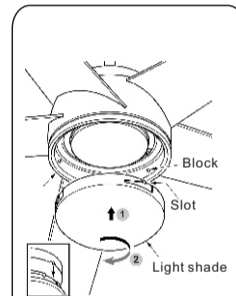

Fig.27
Step 6: Align the slot of the light shade with the aised dimple on the light kit plate and turn it clockwise until it stops.(Fig. 27)